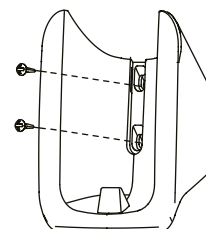

fig. 3
1) Use the screws (accessories) to fix and secure the remote remote control bracket in a stable position (see "fig. 3");
2) Slot the screw lid into the bracket cover on top of the screws (see "fig. 3");